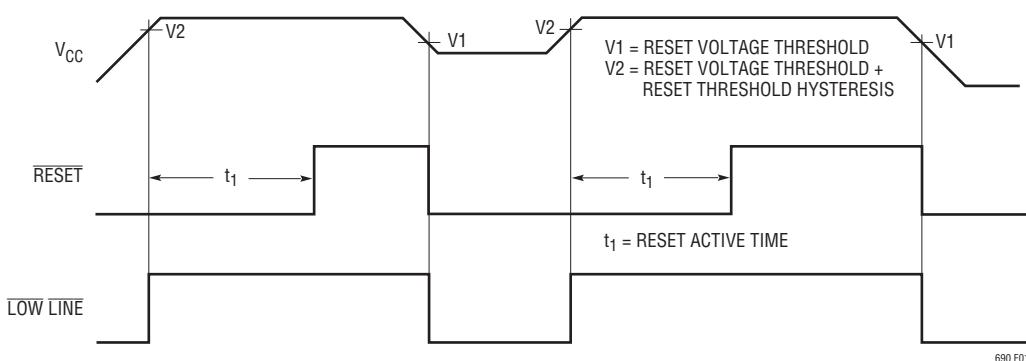

Figure 1. Reset Active Time
**LOW LINE:** Logic Output from Comparator C1.  $\overline{LOW\ LINE}$  indicates a low line condition at the  $V_{CC}$  input. When  $V_{CC}$  falls below the reset voltage threshold (4.65V typically),  $\overline{LOW\ LINE}$  goes low. As soon as  $V_{CC}$  rises above the reset voltage threshold,  $\overline{LOW\ LINE}$  returns high (see Figure 1).  $\overline{LOW\ LINE}$  goes low when  $V_{CC}$  drops below  $V_{BATT}$  (see Table 1).
The LTC690 family uses a bandgap voltage reference and a precision voltage comparator C1 to monitor the 5V supply input on  $V_{CC}$  (see Block Diagram). When  $V_{CC}$  falls below the reset voltage threshold, the  $\overline{RESET}$  output is forced to active low state. The reset voltage threshold accounts for a 5% variation on  $V_{CC}$ , so the  $\overline{RESET}$  output becomes active low when  $V_{CC}$  falls below 4.75V (4.65V typical). On power-up, the  $\overline{RESET}$  signal is held active low for a minimum of 35ms for the LTC690/LTC691 (140ms for the LTC694/LTC695) after reset voltage threshold is reached to allow the power supply and microprocessor to stabilize. The reset active time is adjustable on the LTC691/LTC695. On power-down, the  $\overline{RESET}$  signal remains active low even with  $V_{CC}$  as low as 1V. This capability helps hold the microprocessor in stable shutdown condition. Figure 1 shows the timing diagram of the  $\overline{RESET}$  signal.